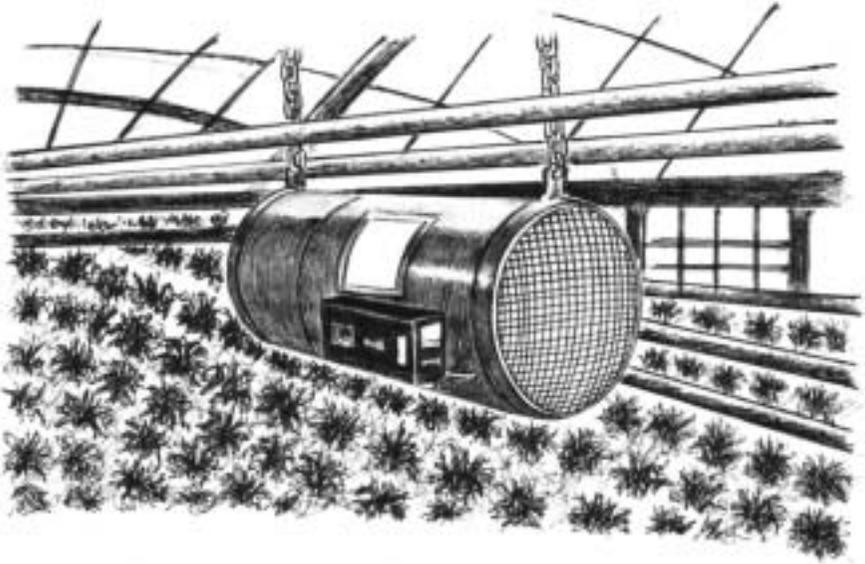

Figure 19: A hanging stove in the greenhouse
More modern stoves distribute the heated air all over the greenhouse. These can be small hanging stoves in which clean (sulphur-free, because sulphur dioxide is toxic for the crops) fuel is burned (like propane gas, for instance, see Figure 19). This of course does require the availability of electricity. The waste fumes containing carbon dioxide (CO_2) that is also useful for growth then remains in the greenhouse. If the greenhouse does not need to be ventilated assimilation can be boosted by this supply of CO_2 from the waste fumes as well as by a supply of pure CO_2 . Toxic gases, including carbon monoxide (CO) and methane (CH_4), are given off by incomplete combustion, which can cause serious harm to humans and crops.